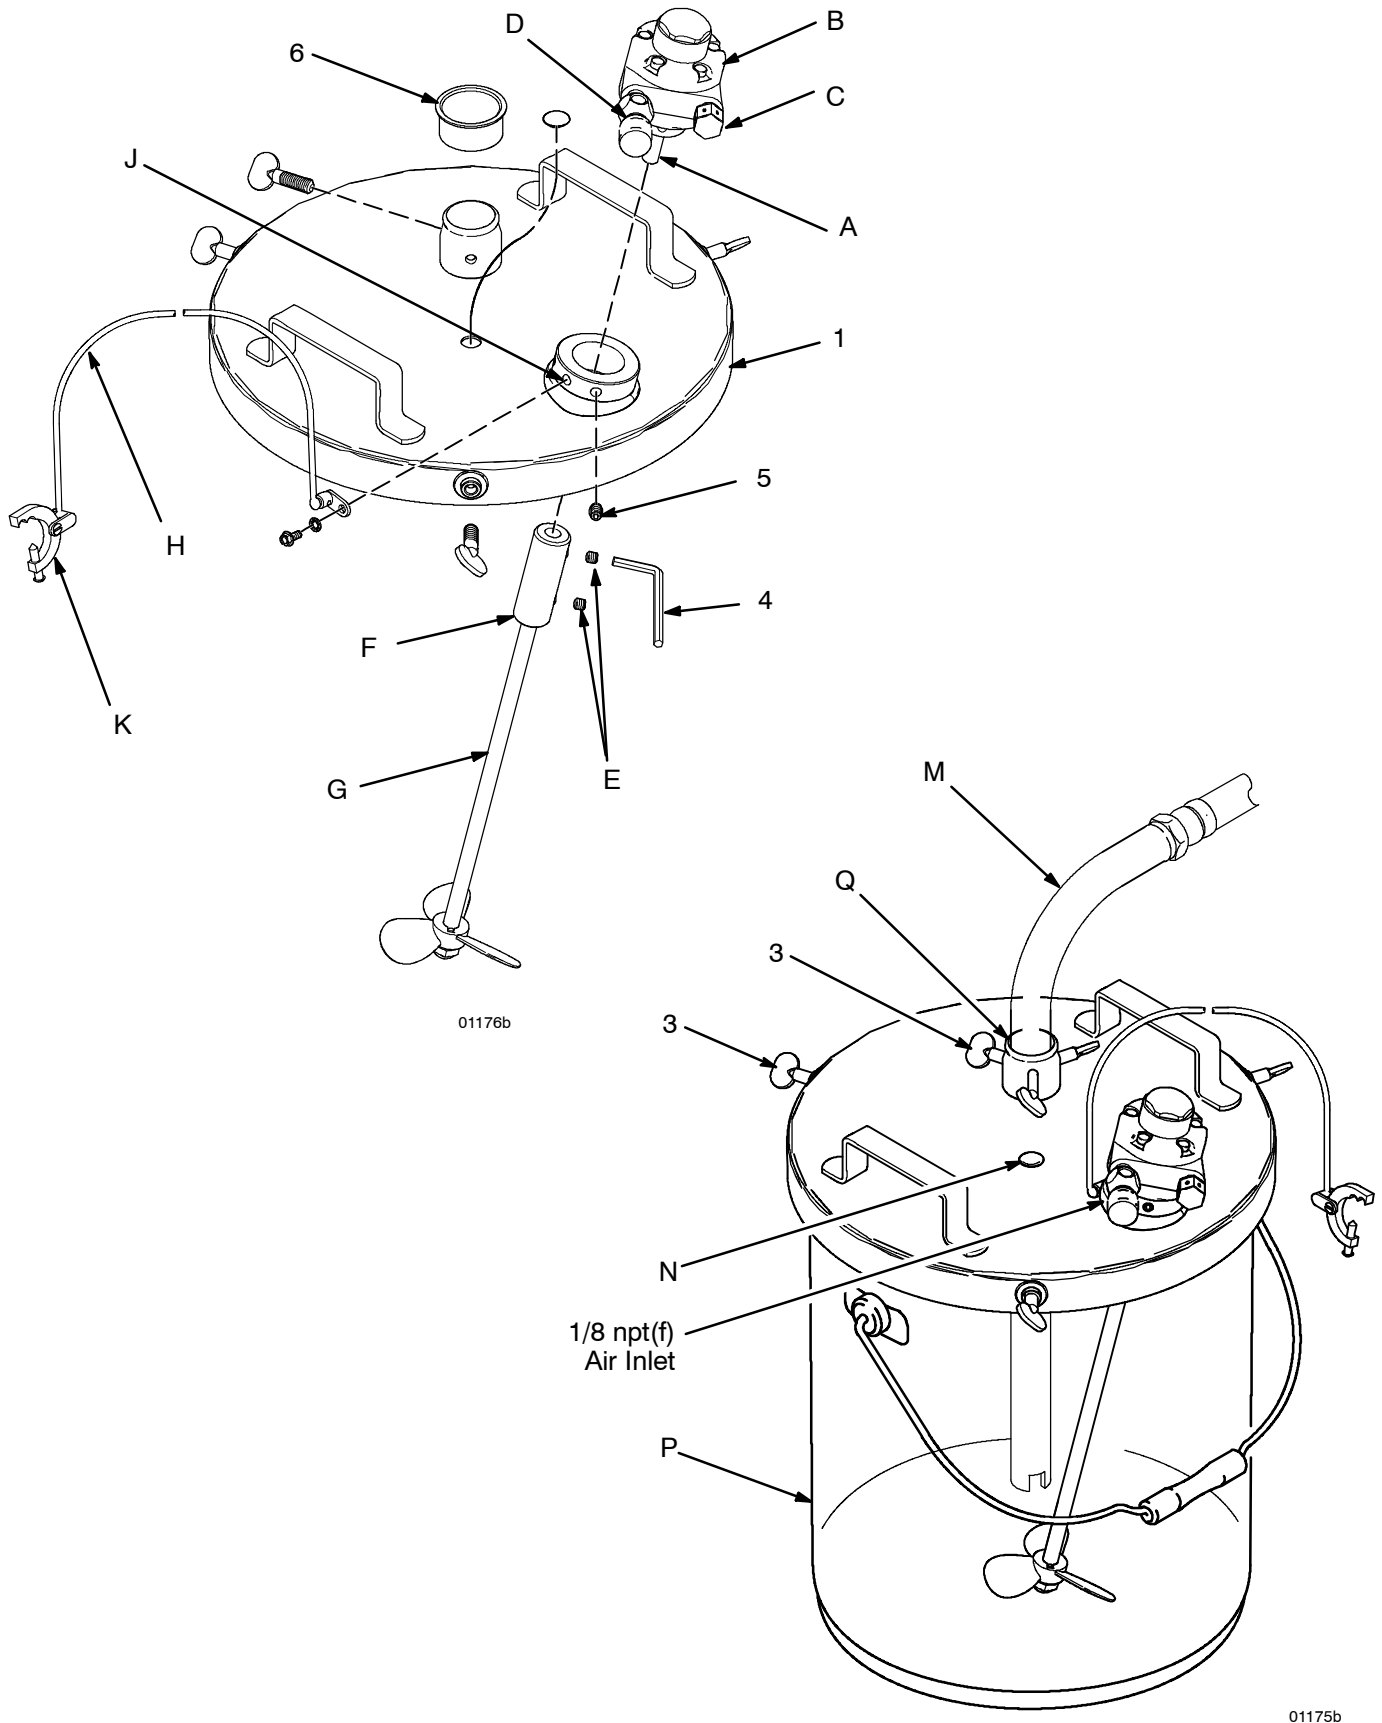

Fig. 1
NOTE: The reference numbers and letters in parentheses in the text refer to the Parts Drawing and Fig. 1.
1. Set the air motor (B) in the opening in the cover (1) as shown in Fig. 1. Secure with the two setscrews (5), using the allen wrench (4).
2. Slide the coupling (F) onto the shaft (A) of the air motor, then insert the agitator shaft (G) into the coupling. Secure the coupling with the two setscrews (E).
3. Close the needle valve (D). Install an air line quick disconnect to the air inlet. Order Part No. 208536 coupler and 169969 fitting, 1/8 npt(m). Then connect a properly sized air hose to the 1/8 npt(f) inlet of the valve.
4. Position the agitator and cover assembly on top of a 5 gal. (19 liter) pail of paint (P). Tighten the three thumbscrews (3).
5. Remove the cap gasket (6) and install a suction tube (M) in the largest port (Q) near the center of the cover. Adjust the suction tube so its end is about 1/4 in. (6 mm) above the bottom of the pail. Secure the tube in the port with three thumbscrews (3).
Regulate the agitator speed with the needle valve (D). See Fig. 1, page 5. Use the lowest agitator speed needed for thorough agitation of the paint. Excessive agitator speed may cause the paint to foam.